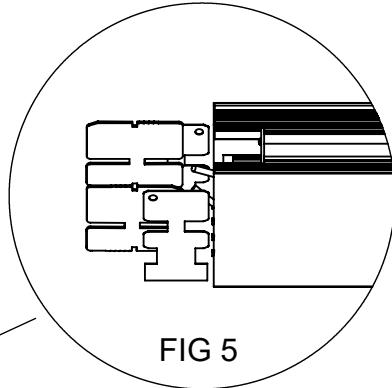

FIG 5
4. If they are not pre-installed, install light leak tabs tabs by sliding them into the end of the fixture on the outside of the alignment plates. (See FIG 5)